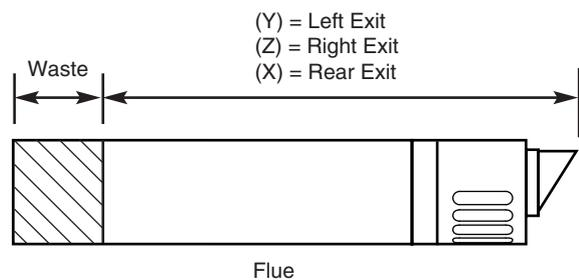

Fig. 27
3. Take the flue and mark off (X) from the terminal end as indicated in the diagram (Fig. 27).
5. Take the flue and mark off (Y) from the terminal end as indicated (Fig. 27).
6. For right hand exit - measure the distance from the edge of the wall plate to the inner face of the wall and to this dimension add the wall thickness + 325mm. This dimension to be known as (Z).
7. Take the flue and mark off (Z) from the terminal end as indicated (Fig. 27).